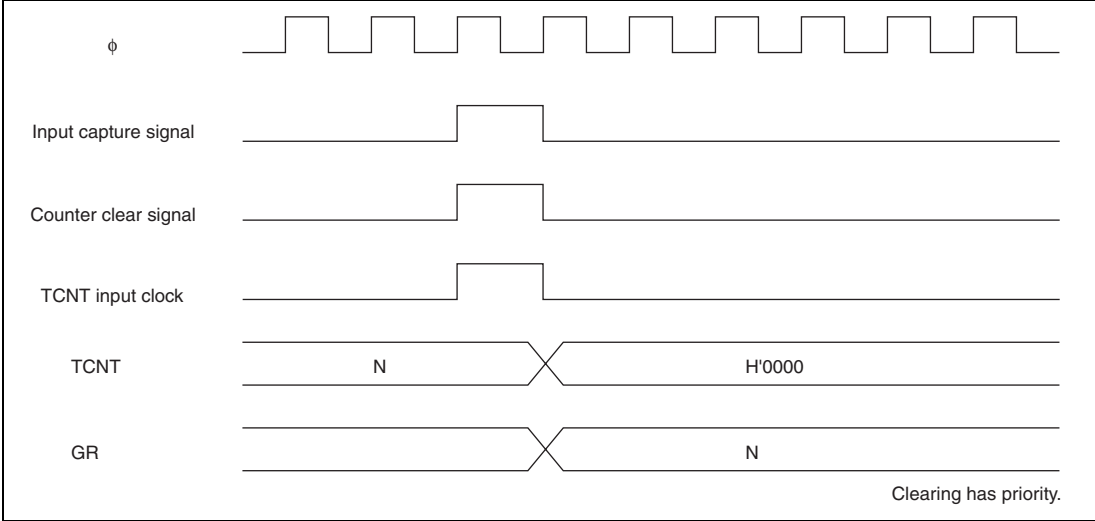

Figure 13.57 Contention between Count Clearing and Increment Operations by Input Capture
- 6. Contention between Count Clearing and Increment Operations by Input Capture: If an input capture and increment signals are simultaneously generated, count clearing by the input capture operation has priority without an increment operation. The TCNT contents before clearing counter are transferred to GR. Figure 13.57 shows the timing in this case.